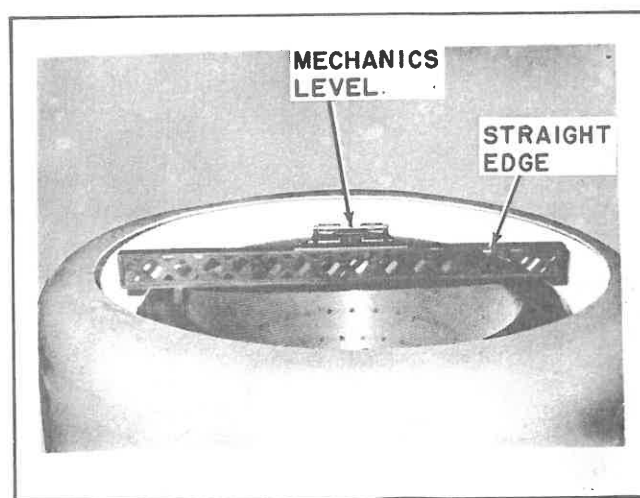

Figure 3. Leveling Centrifugal
a. Remove the curb top and place a mechanics level across the top of the basket assembly, see figure 3.